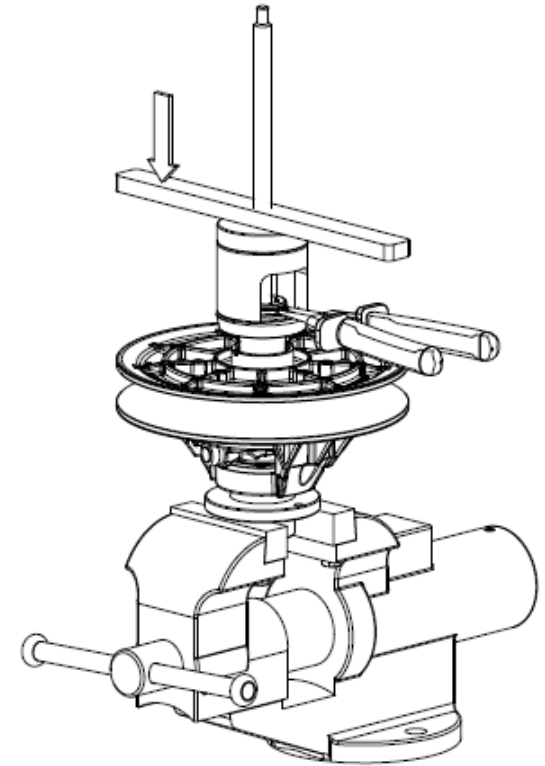
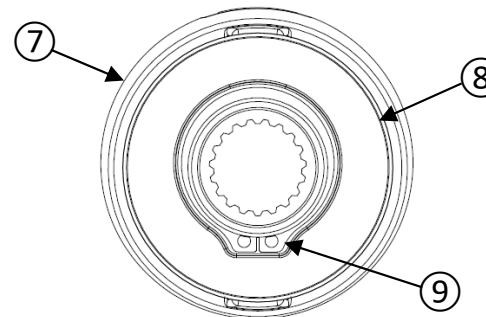

Figure 32
Figure 33
- Install the pulley on the disassembly tool as shown in figure 32.
- Insert the spring ⑥ in the sliding sheave ②.
- Put the spring seat ⑦ on the spring ⑥ and turn it clockwise until it comes to a stop in rotation; maintain the spring ⑥ by hand during the operation.
- Put the spring abutment ⑧ and the snap ring ⑨ on the spring seat ⑦.
- Make sure that the snap ring ⑨ is in the notch made for that purpose (figure 33).
- With the compression tool, lower the spring ⑥, the spring seat ⑦ and the spring abutment ⑧ until they clear the snap ring groove in the shaft.
- Install the snap ring ⑨.